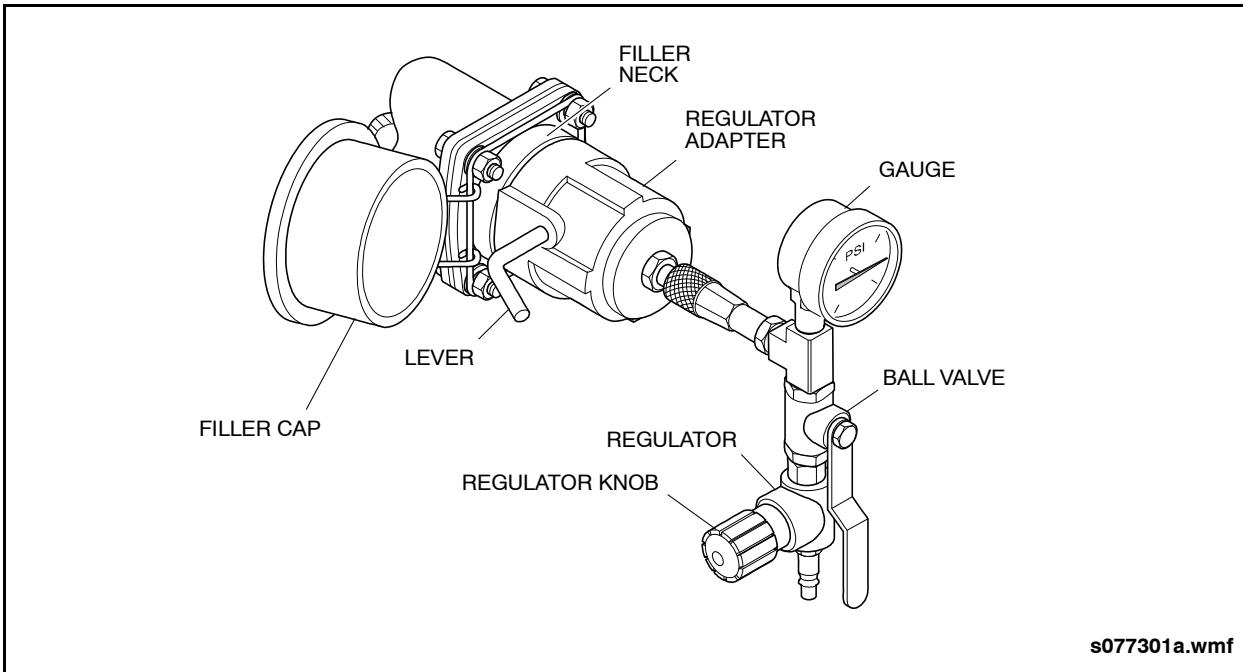

Fig. 7-7: Fuel System Leak Test
4. Attach the regulator adapter to the fuel tank filler. See "Fig. 7-7: Fuel System Leak Test" on page 14.